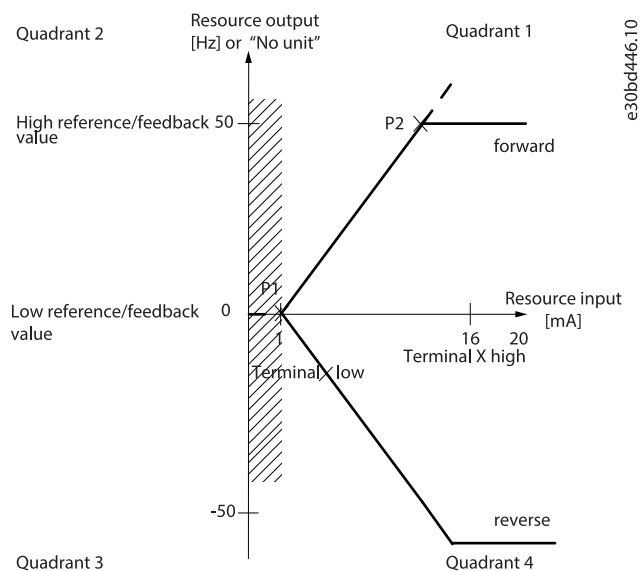

Figure 43: Size of Dead Band
- Set either the minimum reference value or maximum reference value at 0. In other words, either P1 or P2 must be on the X-axis in Figure 43.
P1 or P2 defines the size of the dead band as shown in Figure 43.